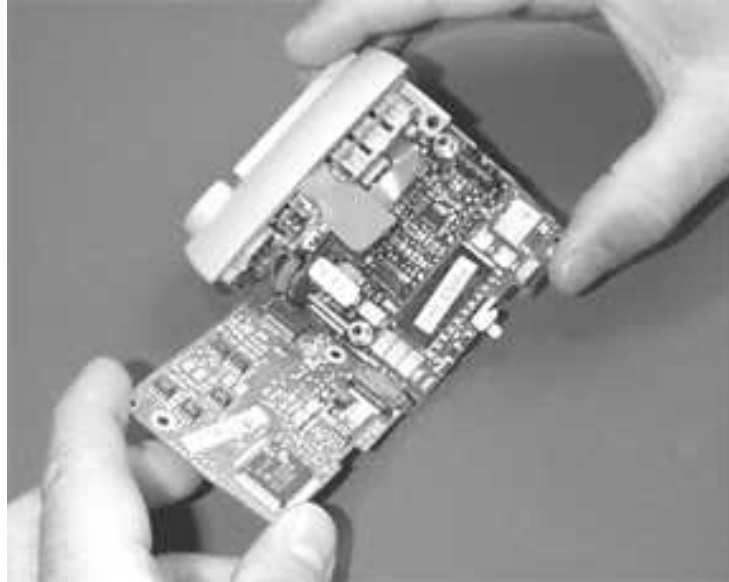

Figure 5-11 Unfold the SpO₂ Board from the Main PCB
Step 5. Lift up on the red tab connector and unfold the SpO₂ board from the Main PCB until the flex circuit tab and the collared connector it mates with are accessible. See Figure 5-11.